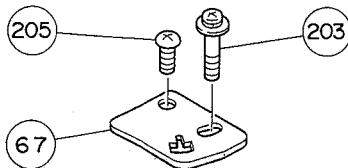

Figure 9
**(D) REMOVE THE TONEARM ASSY (63) AS FOLLOWS:**
1. Unsolder the five lead-wires on Phono PWB Assy (67) coming from tonearm.
2. Remove the Phono PWB Assy which is mounted to the Bracket K (47) by two Screws, (203) and (205) (Fig. 9).